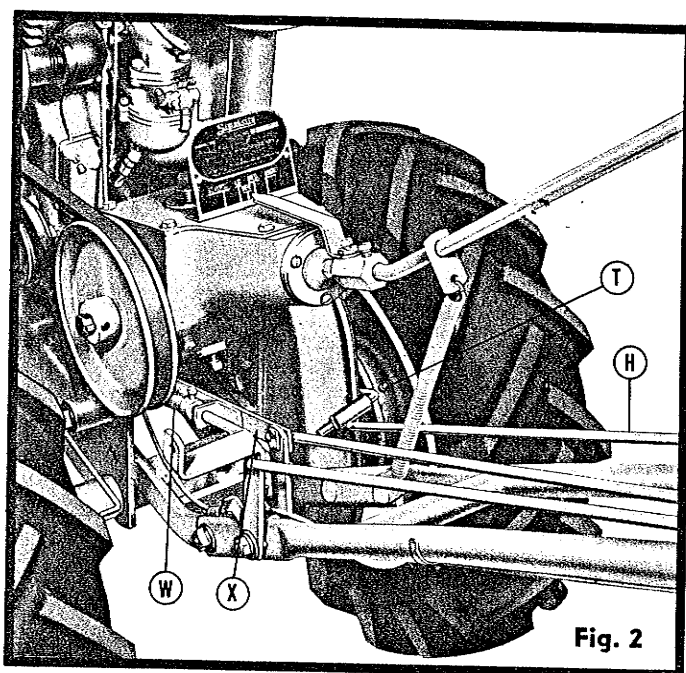

Fig. 2
1. Before bolting handles to the frame, insert the throttle cable (AC) through the cable housing clamp (AE) as shown.
3. When inserting upper left hand handle bolt, assemble lower clutch lever (Q), lever stops (P) and lower clutch pivot lever (M) as shown.
5. Attach upper clutch rod (R) to lower clutch lever (Q) and left hand clutch lever (E).
6. Attach upper idler rod (L) to right hand clutch lever (D), then to lower clutch pivot lever (M), and to idler clutch rod guide (X).
7. Connect lower idler rod (Y) in guide assembly (X) to idler lever (AZ) as shown.
8. Thread one end of spring (BN) into lower spring holder (BP). Place upper spring holder (BM) over end of gear shift handle extension as shown and slip handle extension into coupling (C). Be sure countersunk hole in end of handle extension lines up with set screw and tighten securely.
9. Thread other end of spring (BN) into upper spring holder (BM) and position spring holder on handle extension as shown, approximately 3 inches from coupling.
10. Attach throttle control lever (AA) to left handle with throttle cable strung underneath. Screws and clamps for cable and throttle lever are in a mailing bag tied to the throttle cable. Clamp throttle cable to handle with three clips (AD) as shown.
11. Attach shift rod (H) to clevis assembly as shown in Fig. 2. Hold in place with cotter pin.
12. Adjust rod guide (J) with nut to exert slight pressure on shift rod (H). This adjustment is important to keep shift rod in desired position.
The tractor, but not the engine, (see engine instruction book), is fully lubricated and ready for use when received. CAUTION: CHECK TRANSMISSION OIL LEVEL AT PLUG PROVIDED. LOSS OF OIL MIGHT OCCUR DUE TO IMPROPER HANDLING IN SHIPPING. If additional oil is needed add SAE No. 90 oil to proper level. Excessive amount of oil may cause damage to oil seals. There are 4 high pressure grease fittings and 3 oil plugs on the tractor. The grease fittings are located on the idler pulley, the main axle housing, the gear case, and the carrier housing (T-Fig. 2). Add a few point shots of grease approximately every 8 hours of use to all fittings. Use a general purpose semisolid grease in the grease gun supplied with the tractor.